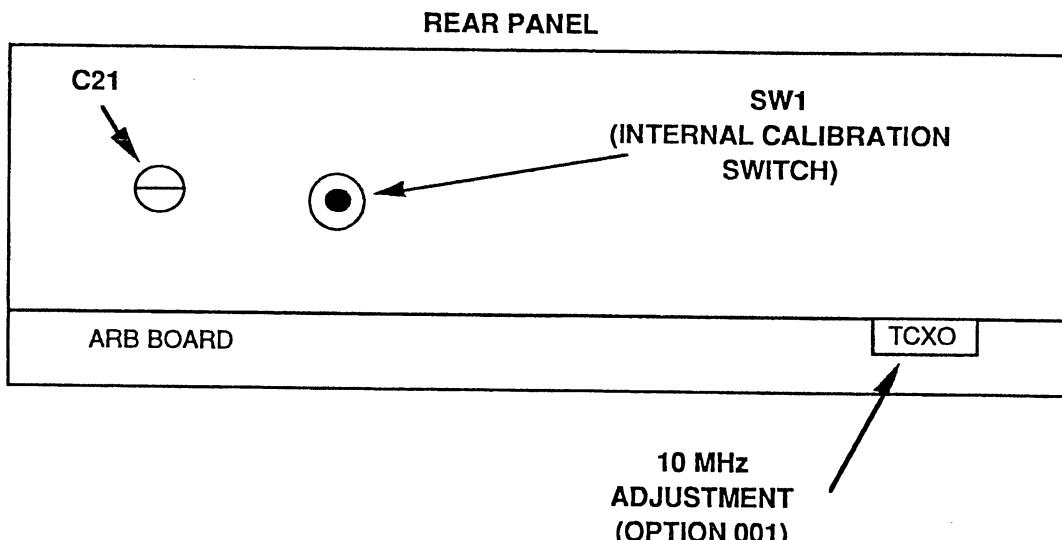

Figure 4-3. Frequency Reference/TCXO Locator
4. Measure the frequency at the Sync Out connector. Verify the counter reads 1MHz $\pm 5\text{Hz}$. If incorrect, slide the cover back, adjust C21 (see figure 4-3) until the counter reads 1MHz $\pm 5\text{Hz}$, and then slide the cover back on.
If incorrect, turn off the Model 95 and slide the cover back. Place the Arb board on an extender card. Turn the power back on. Remove the sticker from the TCXO and adjust the trimmer (see figure 4-3) until the counter reads 10 MHz ± 2 Hz.
1. After the unit is warmed up (20 minutes) slide the top cover back. Press and hold down the internal calibration switch SW1 (figure 4-3) while pressing the SHIFT and CALibrate keys.